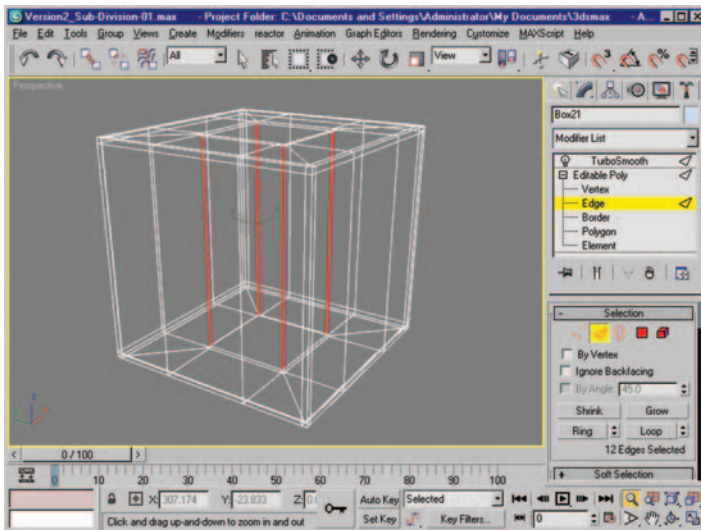

Figure 6.44 *Edge-ring selection.*
11. For a crisper edge, there is one last thing to do. Select the edges that run along the inside of the square opening (Figure 6.44).